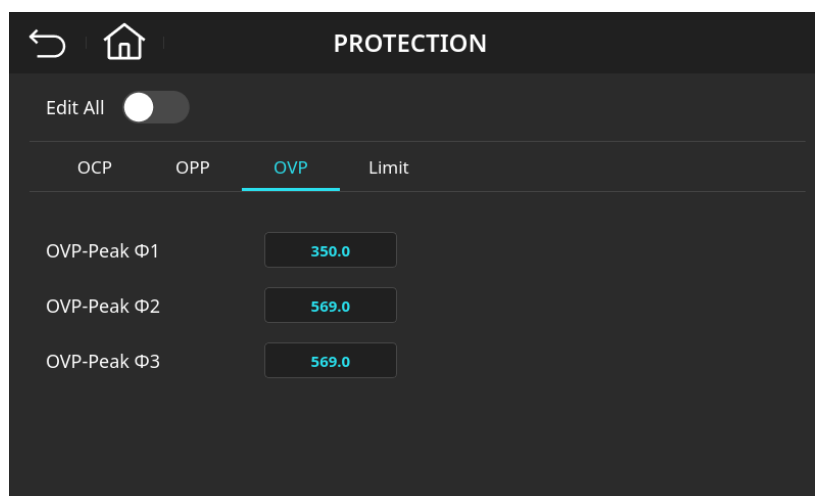

Figure 4-56 Output Overvoltage Protection Page (OVP-Peak $\Phi 1 = 350 \text{ V}$)
4. Enter , ,  then press  to change the value to “350.0”, as shown in Figure 4-56.